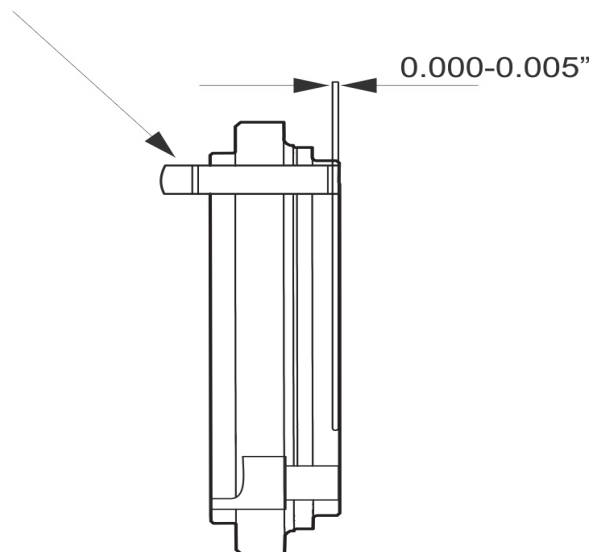

Figure 7-9. Installing Stop Pins in Flange
- a. Remove pin (57) using an arbor press, drift, and adequate support to protect flange from damage.
- b. Measure the size of the stop pin (57) bore:
- (1). A 0.2485 inch gauge pin (57) should start, but not enter, the bore deeper than 0.120 inch below the face of the housing (72). Install spare oversize stop pin as shown in Figure 7-9. It is permissible to replace one or both pins in a flange. Both pin holes, however, must have pins installed.
NOTE: Spare pins are 0.005 inch and feature groove as shown in Figure 7-9.